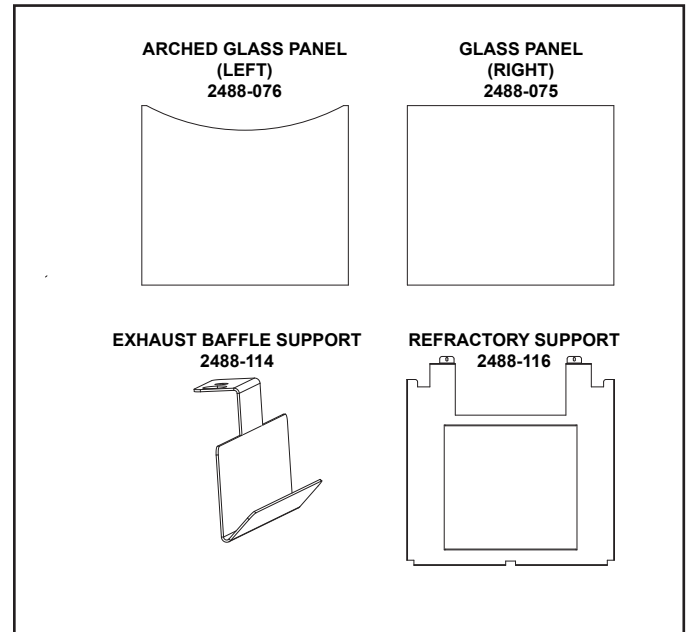

Figure 1. Metal Components - Components Shown Bent
KIT COMPONENTS (Shown in Figure 1)
9. Carefully remove the glass panels from the packaging. Identify the arched left side glass panel. See Figure 1.